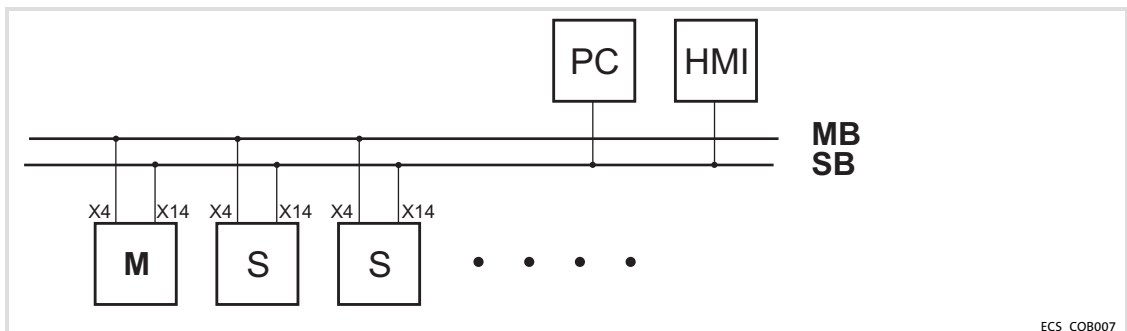

Fig.5-14 MotionBus (CAN) with controller as master
- ▶ In Fig.5-14 the function of the master is enabled by a controller intended as master.